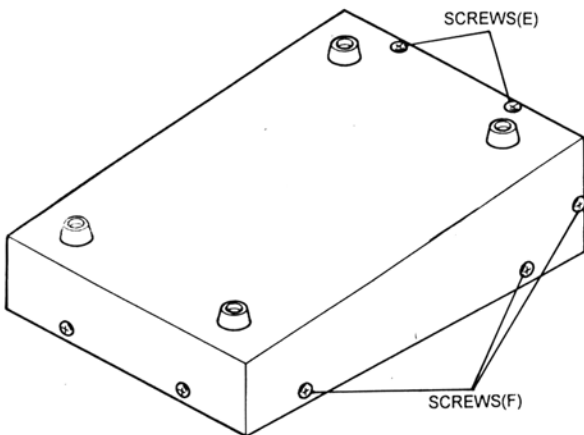
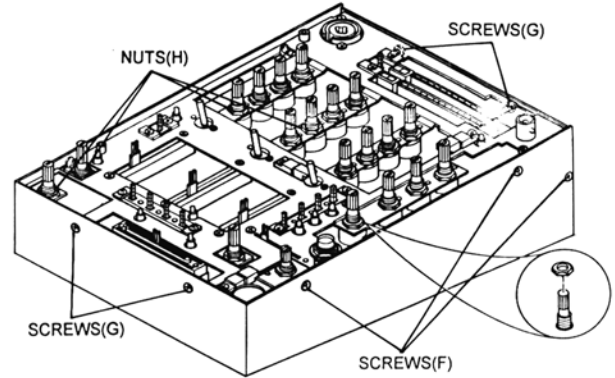

Fig. 2
Fig. 3
- (a) Remove 2 screws(E).(fig.2)
- (b) Remove 6 screw(F).(Fig.2(Fig.3))
- (c) Remove 4 screws(G).(Fig.3)
- (d) Remove 20 nuts(H).(Fig.3)